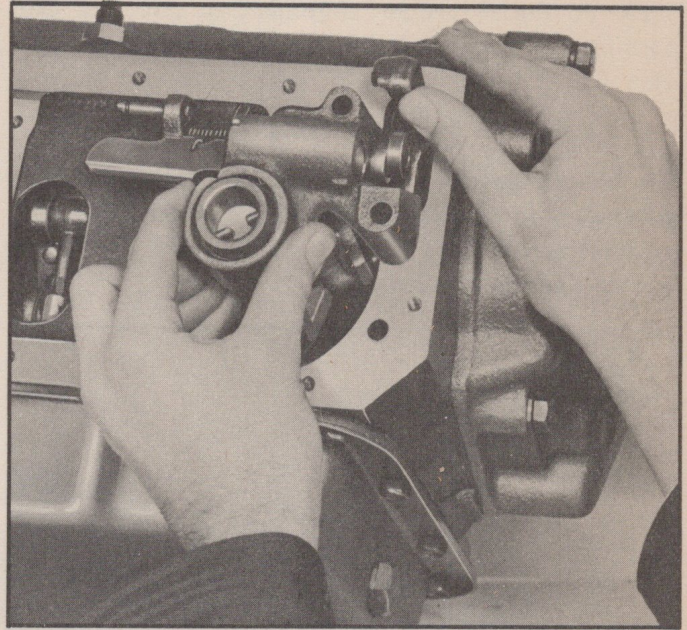

Fig. 97—Installing Parking Brake Bracket and Parking Pawl
6. Install parking pawl in case and hold it against top of case with one hand (Fig. 97). While holding parking pawl, place chamfered side of oil delivery sleeve over end of governor and press gently on, guiding rings into oil delivery sleeve.